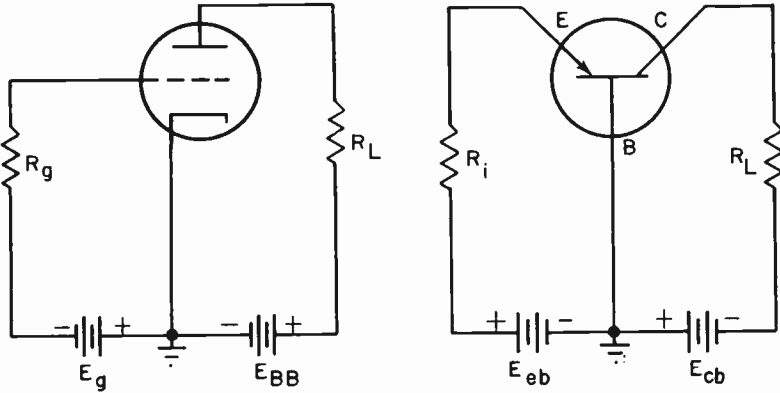

FIG. 10-11. COMMON CATHODE AND COMMON BASE CONNECTIONS.
Second, there is the matter of transistor circuitry. In the explanatory diagrams previously shown, the base of the transistor was shown as the **COMMON** element. That is, **THE BASE FORMED A PART OF BOTH THE COLLECTOR AND EMITTER CIRCUITS**. This is quite similar to the situation encountered in vacuum tube circuits, in which the cathode is common to both the grid and plate circuits. See Fig. 10-11.
**COLLECTOR VOLTAGE  $E_c$ .** The collector voltage is defined as the DC potential applied between the collector and the base. If no load resistor is present, then  $E_c$  is equal to the voltage of the collector battery ( $E_{cb}$  in Fig. 10-11). With a load resistor in the circuit and collector current flowing, then  $E_c$  is equal to the battery potential, minus the voltage drop across  $R_L$ . Typical maximum collector voltage ratings range from a few volts to 80 volts or more. For P-N-P transistors, the collector voltage is given as a negative value (e.g.  $E_{cb} = -20$  volts) to indicate that the battery polarity is such as to make the collector negative with respect to the base.